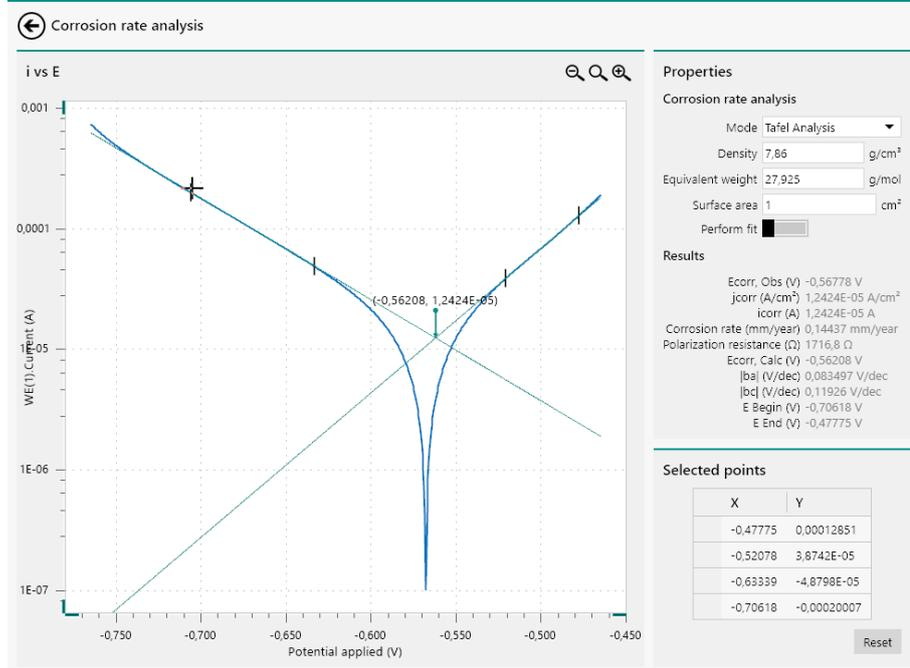

Figure 960 The two slopes are used to determine the corrosion rate
The same can be done for the cathodic branch. When the two points are defined, the cathodic Tafel slope is plotted and the intercept of both lines is used to determine the corrosion potential, the exchange current and current density, the polarization resistance and the corrosion rate (see Figure 960, page 780).
1. **Perform fit off:** the command will perform the calculations of the command based on the location of the intercept. This will lead to an approximation of the corrosion data (see Figure 960, page 780).